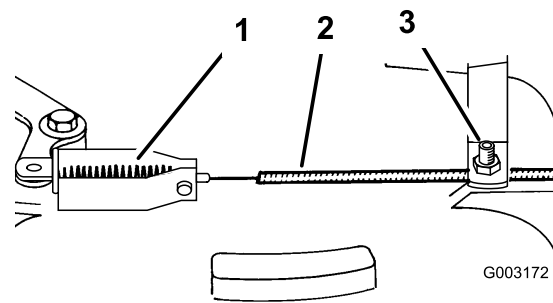

Figure 32
- Loosen the cable clamp screw until the brake cable conduit slides (Figure 32).